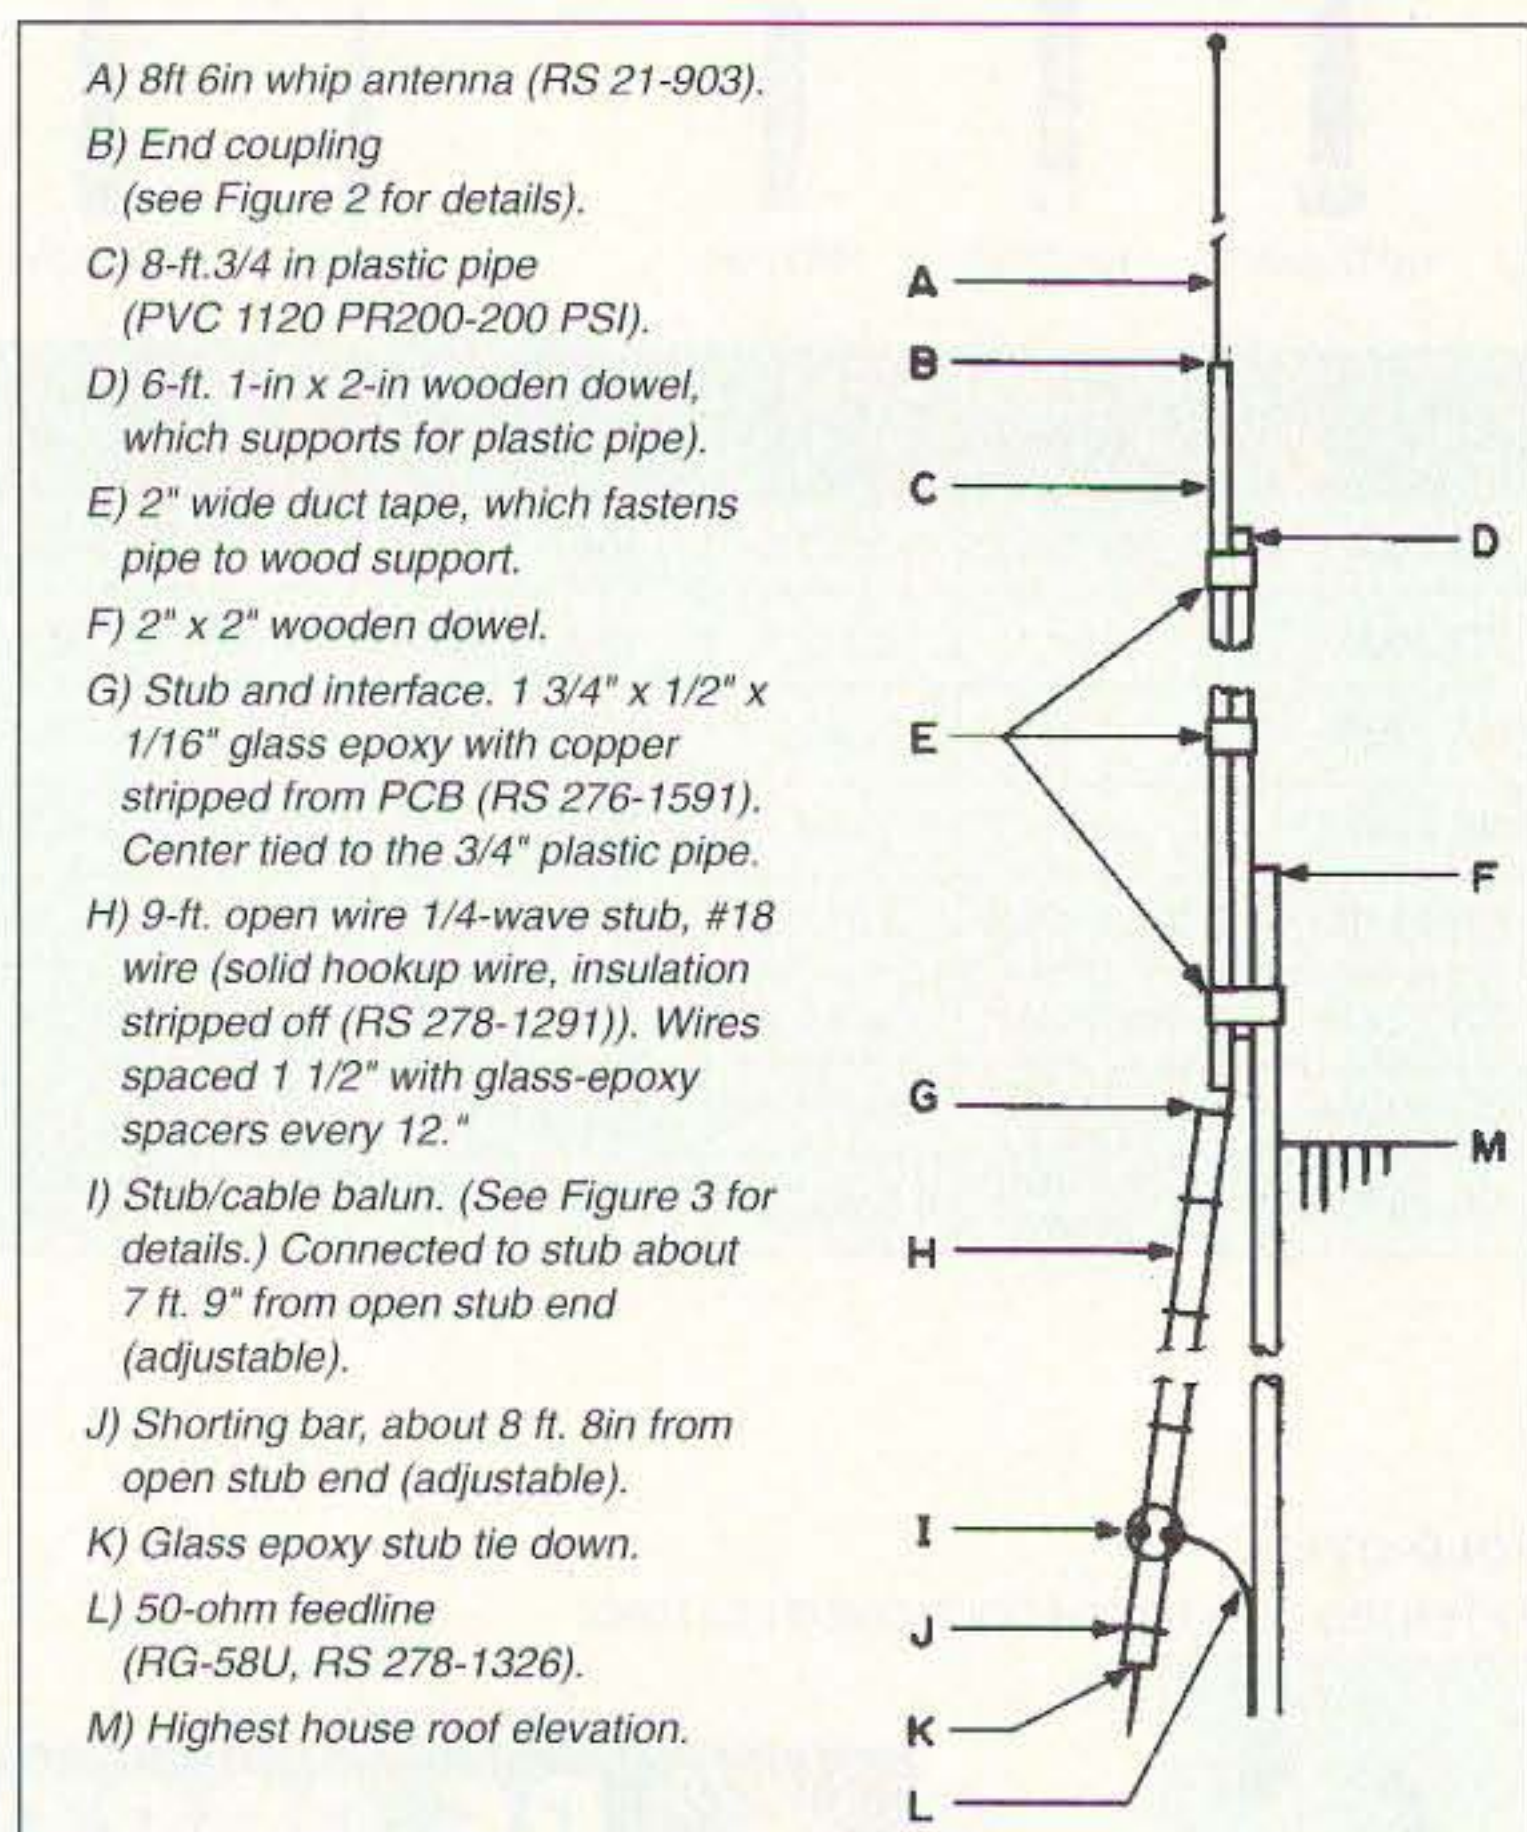

Figure 1. Antenna Schematic.
The diagram in Figure 1 shows the configuration and lists the materials. The 1/2-wave radiator is a 1/4-wave whip antenna connected to a 1/4-wave wire inside a plastic PVC pipe. The wire end of this 1/2-wave assembly is matched to a 50-ohm transmission line with an open wire 1/4-wave stub with a balanced to unbalanced balun. In the normal J-type antenna the 1/4-wave stub is part of the vertical structure. My antenna worked well with the stub close to perpendicular
As indicated in Figure 1, the stub wires are spaced 1 1/2" with plastic spacers at 1-foot intervals. Although I used glass epoxy for the spacers (etched PCB), Plexiglas (TM) works just as well. Drill the spacers with wire clearance holes at each end, temporarily hold them in position with small pieces of masking tape, and then fasten them with a spot of all-purpose adhesive.